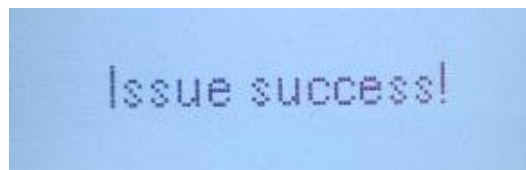

Figure 4-7
- g) You can see the following interface if successfully issued the card. See Figure 4-7. You can issue more cards to other rooms.